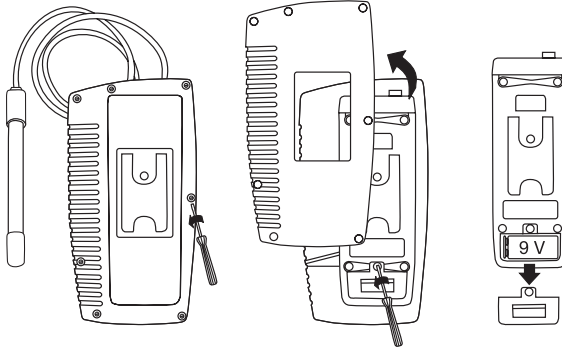

Figure 3
2. Remove the protective cover before replacing the battery. To replace the battery, remove the Battery Compartment Cover (Figure 3) on the rear of the meter.